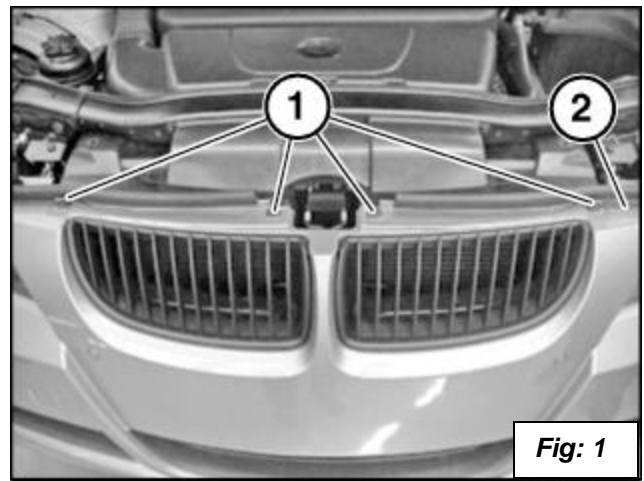

Fig: 1
3. Remove the front bumper. Start by removing four Torx screws (1) from bumper trim (2) as shown in figure 1.